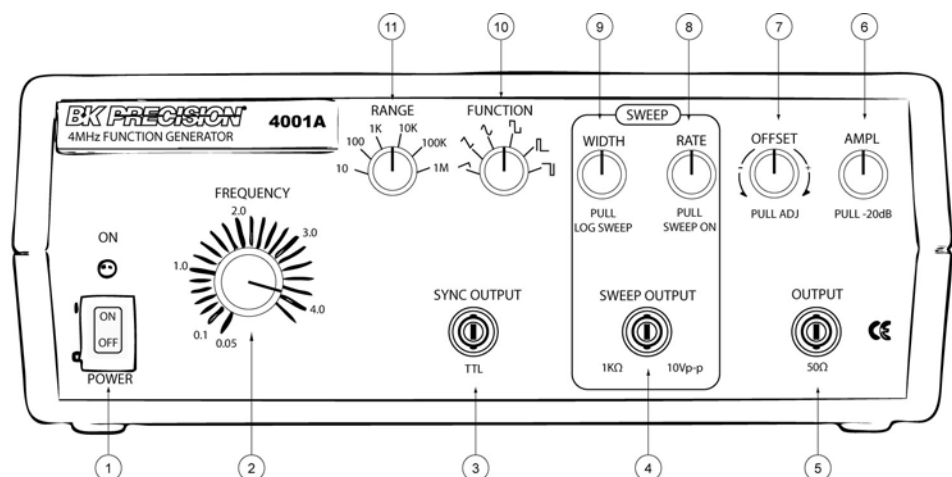
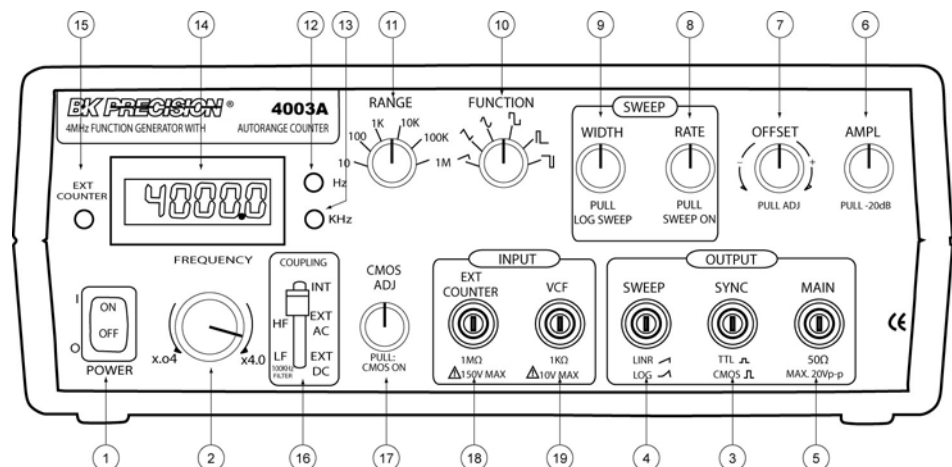

Figure 1 – Front Panel Controls (4001A)
Figure 2 - Front Panel Controls (4003A)
4.1 FRONT PANEL (Refer to Figure 1 & Figure 2)
(Refer to Figure 2)